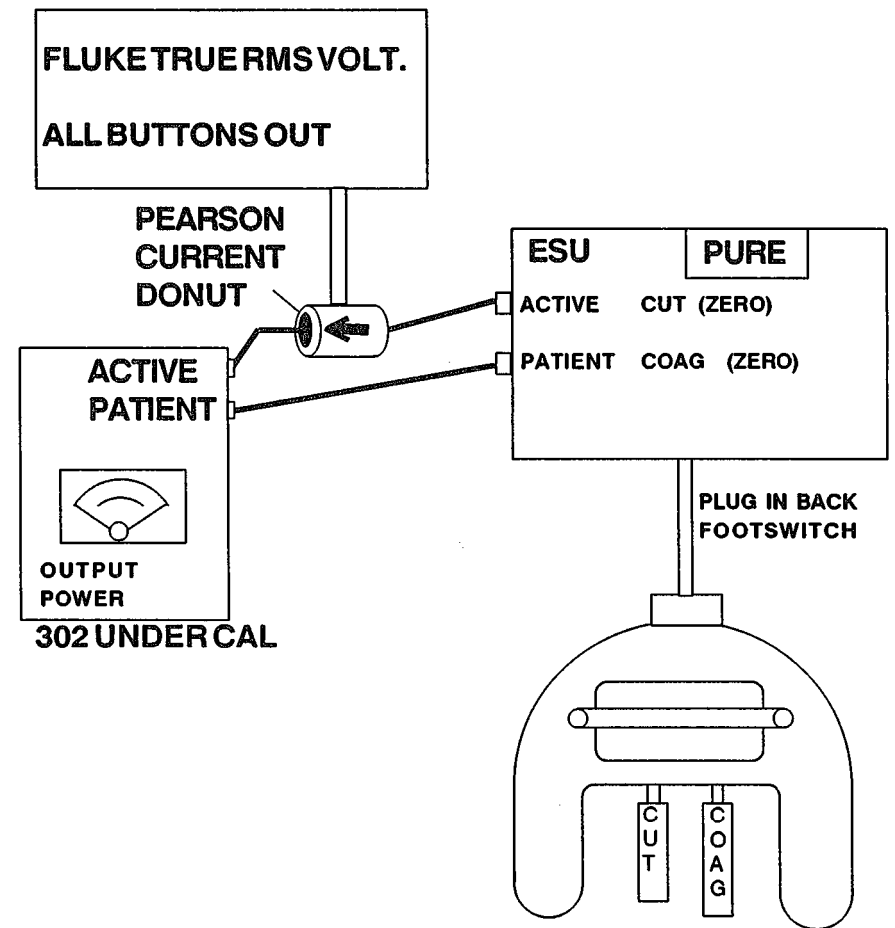

Figure 7. RF 302 / ESU wiring configuration
- 21) The following tests are performed using the Electrosurgery Machine, the True RMS Voltmeter, the Current Transformer and the Explosion Proof Foot Switch. Set up above test equipment as shown in Figure 7 on Page 33.